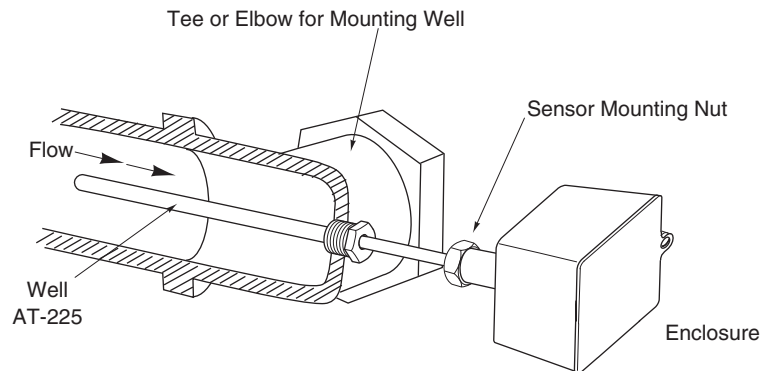

Figure-3 TS-9201 Immersion Mounting.
1. Remove lock nut and duct mounting flange from sensor (Figure-3).